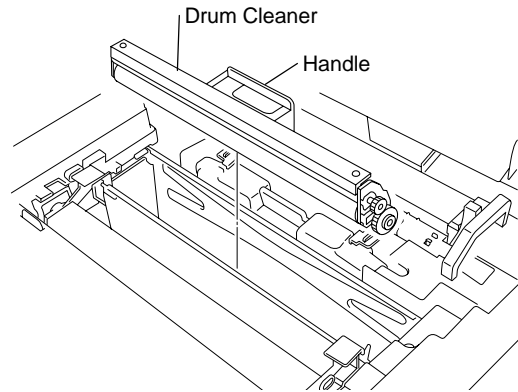

Fig.6-25
- 3) Remove the drum cleaner by lifting it out. (Fig.6-25)